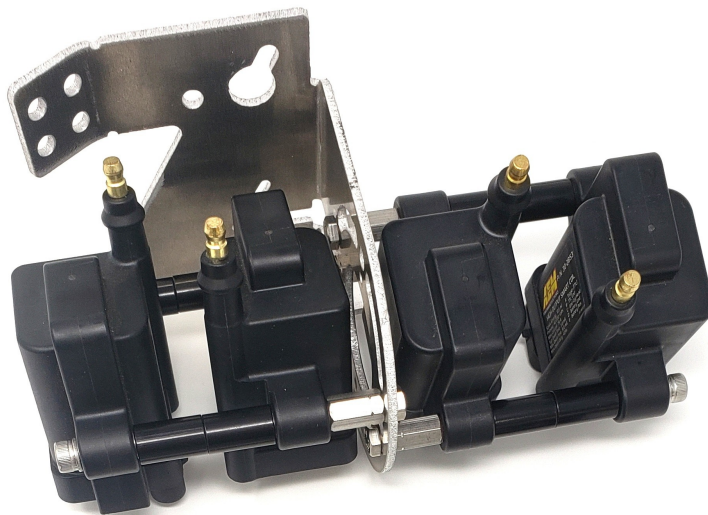

Fig 4
- 8: Repeat for the opposite side noting orientation in the pictures.(See Figure 4)